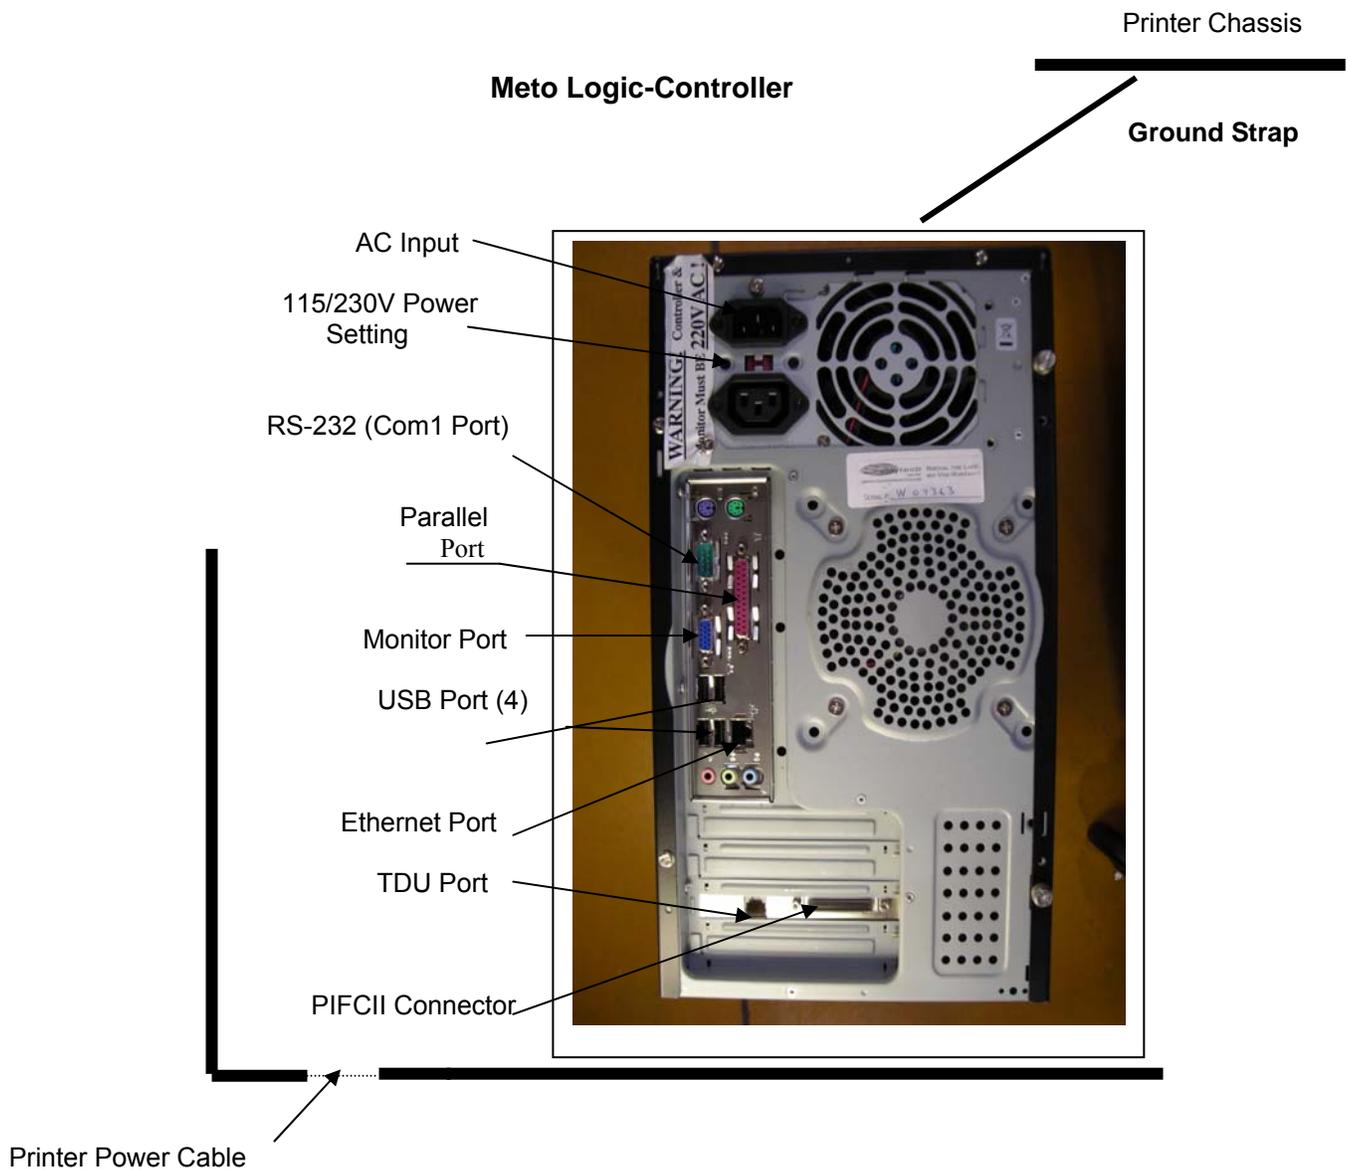

Figure 5-16
7. Attach one end of the ground strap to the rear of the controller frame and the other end to an available printer chassis screw as shown in Figure 5-16. Leave enough ground strap slack to allow the controller to be completely removed from lower cabinet for service.
9. Attach the Blue TDU cable from the connector panel harness to the controller's TDU port as shown in Figure 5-16. Make sure the connector is securely seated.